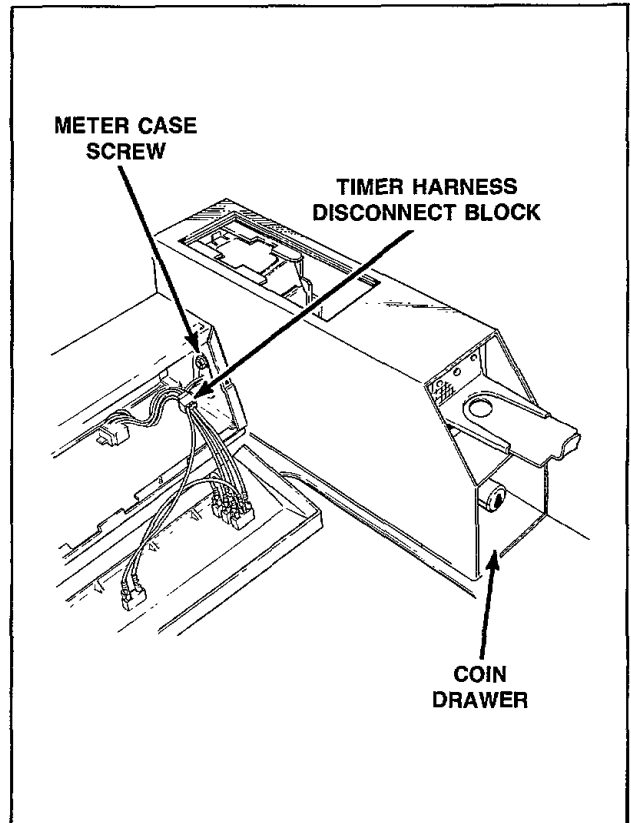

Figure 7
- e. Disconnect timer harness from control hood harness at disconnect blocks, *Figure 7*.
- g. Remove cap screw, lockwashers and nut holding meter case to end of control hood, *Figure 7*.
- h. Remove coin drawer, *Figure 7*.